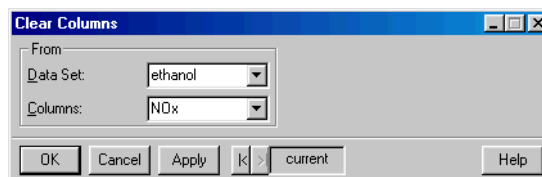

Figure 2.27: *The **Clear Columns** dialog.*
- From the main menu, choose **Data ► Clear ► Column**. The **Clear Columns** dialog opens, as shown in Figure 2.27.